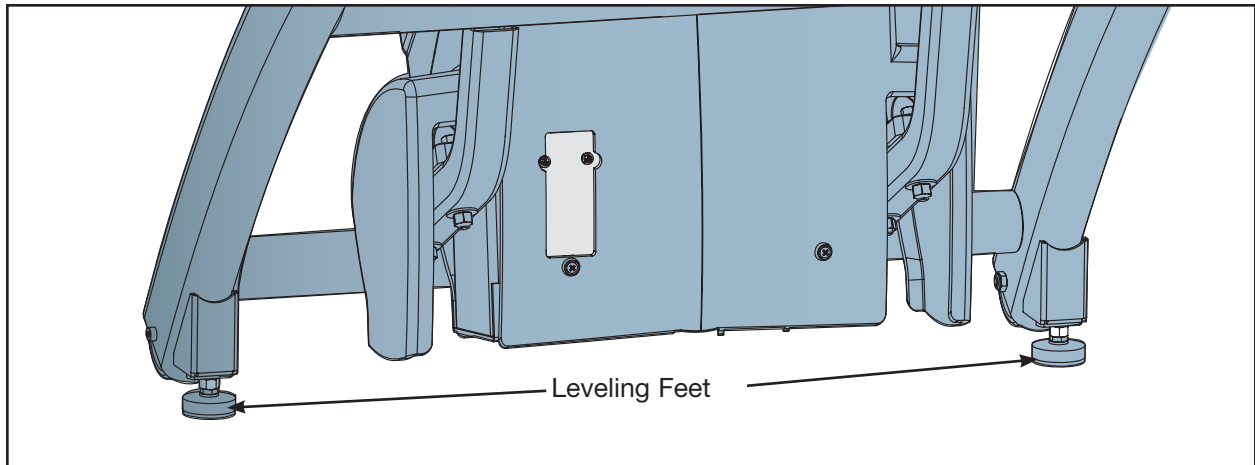

Figure 9
- A. Confirm that the unit is on a level surface. If it is not, use a 9/16" open-end wrench to adjust the leveling feet up or down. See Figure 9.